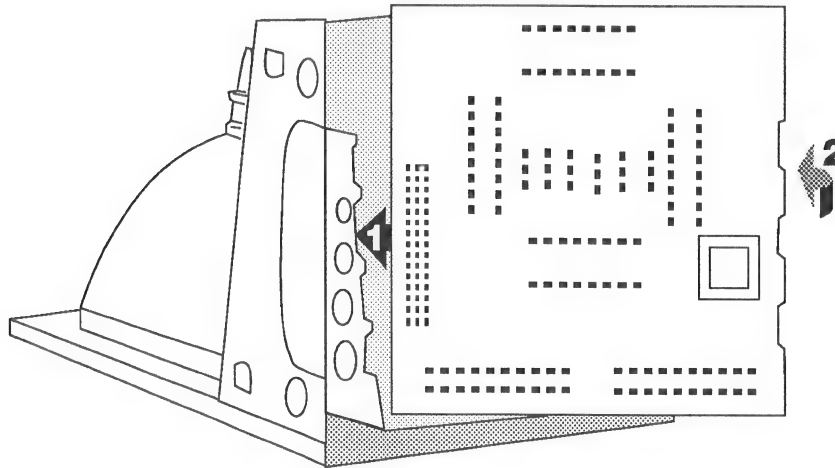

Figure 3-10 Mounting main logic board and accelerator into SE chassis
- ☐ 1. Place the left edge of the main logic board inside the metal guide rails, and swing the board, as if closing a door, toward the right guide rails. See Figure 3-10.